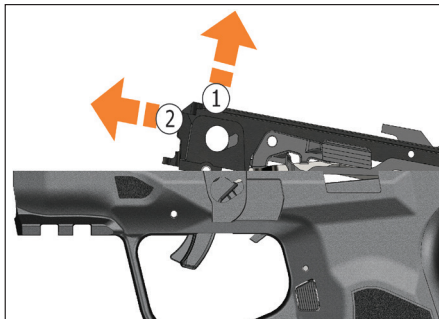

Figure 26 – Chassis removal
4. Remove the chassis by lifting up on the front of the chassis (1) and pulling it forward once the trigger is halfway out of the trigger pocket (2). Once the rear tab of the chassis is free from its pocket in the frame assembly, lift the chassis completely from the frame assembly (3) (See Figure 26).
5. To reinstall the chassis, insert the trigger halfway into the trigger pocket of the frame assembly. Then slide the tab on the rear of the chassis into the pocket of the frame assembly at the rear and seat the chassis fully into the frame assembly. This is the reverse of the operation shown in Figure 26.